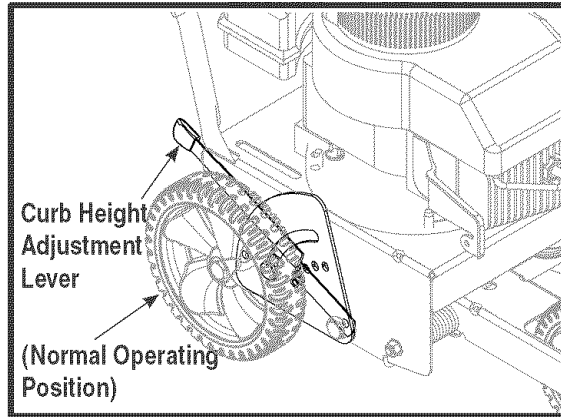

Figure 5
1. Lower the right, rear wheel by moving the curb height adjustment lever slightly to the left. See Figure 5.